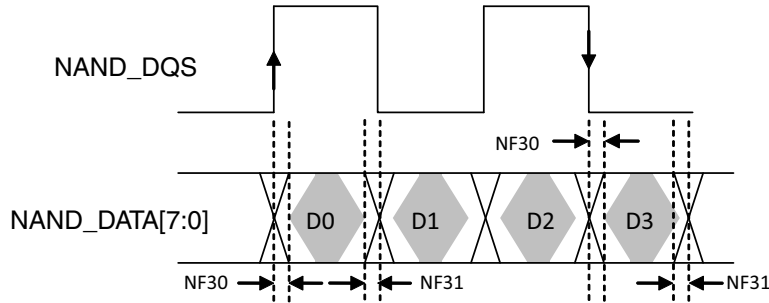

Figure 31. NAND_DQS/NAND_DQ Read Valid Window
For DDR Source sync mode, Figure 31 shows the timing diagram of NAND_DQS/NAND_DATAxx read valid window. The typical value of tDQSS is 0.85ns (max) and 1ns (max) for tQHS at 200MB/s. GPMI will sample NAND_DATA[7:0] at both rising and falling edge of an delayed NAND_DQS signal, which can be provided by an internal DPLL. The delay value can be controlled by GPMI register GPMI_READ_DDR_DLL_CTRL.SLV_DLY_TARGET (see the GPMI chapter of the i.MX 6Solo/6DualLite reference manual). Generally, the typical delay value of this register is equal to 0x7 which means 1/4 clock cycle delay expected. But if the board delay is big enough and cannot be ignored, the delay value should be made larger to compensate the board delay.
- ⁷ Shown in Figure 31, NAND_DQS/NAND_DQ Read Valid Window.
For DDR Toggle mode, Figure 31 shows the timing diagram of NAND_DQS/NAND_DATA_{xx} read valid window. The typical value of tDQSQ is 1.4 ns (max) and 1.4 ns (max) for tQHS at 133 MB/s. GPMI will sample NAND_DATA[7:0] at both rising and falling edge of an delayed NAND_DQS signal, which is provided by an internal DPLL. The delay value of this register can be controlled by GPMI register GPMI_READ_DDR_DLL_CTRL.SLV_DLY_TARGET (see the GPMI chapter of the i.MX 6Solo/6DualLite reference manual). Generally, the typical delay value is equal to 0x7 which means 1/4 clock cycle delay expected. But if the board delay is big enough and cannot be ignored, the delay value should be made larger to compensate the board delay.